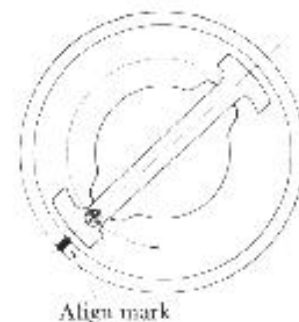

Fig. 5-7
3. Install the rotor and distributor cap. Align center line of the rotor (the side of the ND mark) with the mark provided on the distributor housing as shown in the Fig. 5-7.